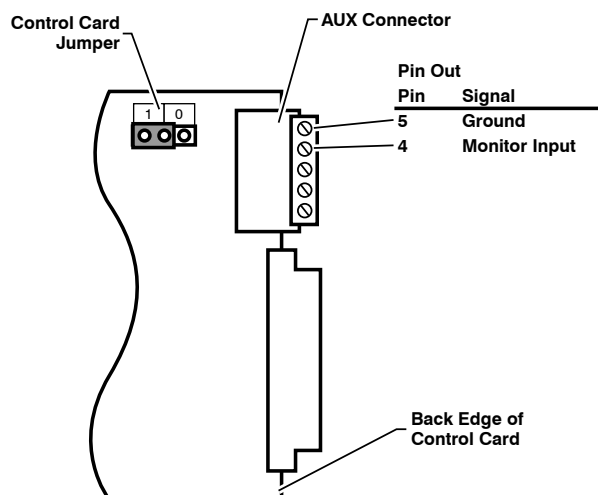

Figure 7.3: Control Module AUX Connector - Monitor Input and Ground
4. **Connect Monitor Input:** Connect the signal line that you wish to monitor to Pin 4 (Monitor Input) on the Control Module AUX Connector as shown in Figure 7.3.
4. **Connect Monitor Input:** Connect the signal line that you wish to monitor to Pin 4 (Monitor Input) on the Control Module AUX Connector as shown in Figure 7.3. Connect your ground line to the Ground Connector (Pin 5).